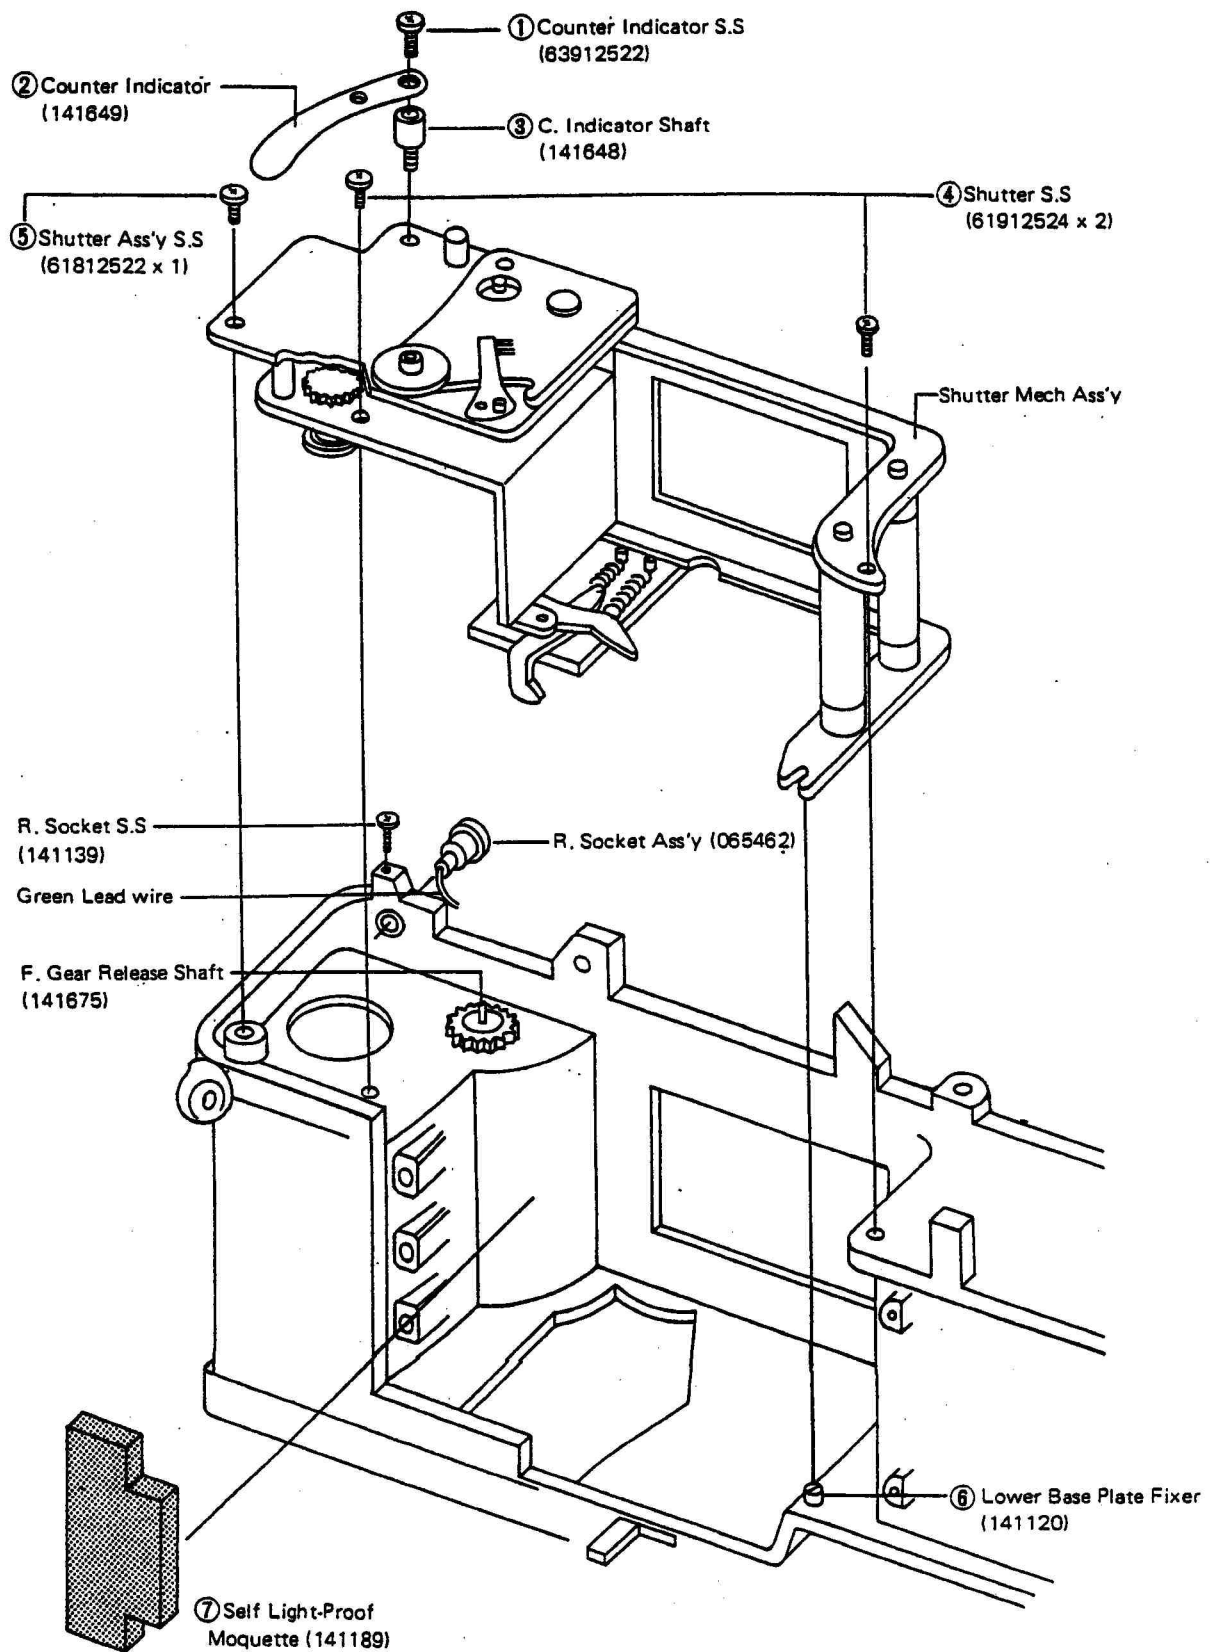

Fig. 21
- c) Remove the respective parts ① ~ ⑦ shown in (fig. 21) in numerical order.
- a) F. Gear Release Shaft (141675) (fig. 21) easily falls off when the camera body is turned upside-down.